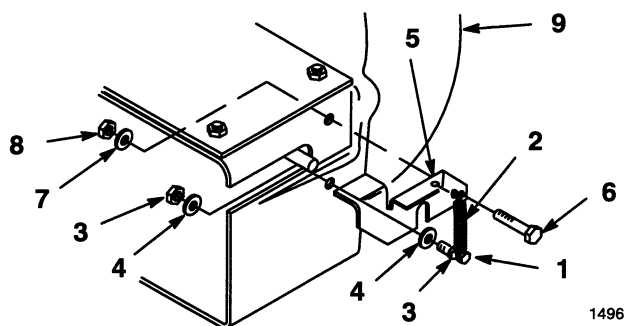

Figure 6
8. Install one end of tension spring and #10 nut onto #10 x 3/4" screw. Thread nut on within 1/8" from end of screw so spring rotates freely (Fig. 6).
9. Slide #10 washer onto screw and insert through blower housing. Secure with second #10 washer and #10 nut (Fig. 6).
10. Select appropriate latch (42" short, 48" long) Hook spring into latch and mount to blower housing with 1/4 x 3/4" bolt, 1/4" washer and 1/4" lock nut (Fig. 6). Check that latch pivots freely.